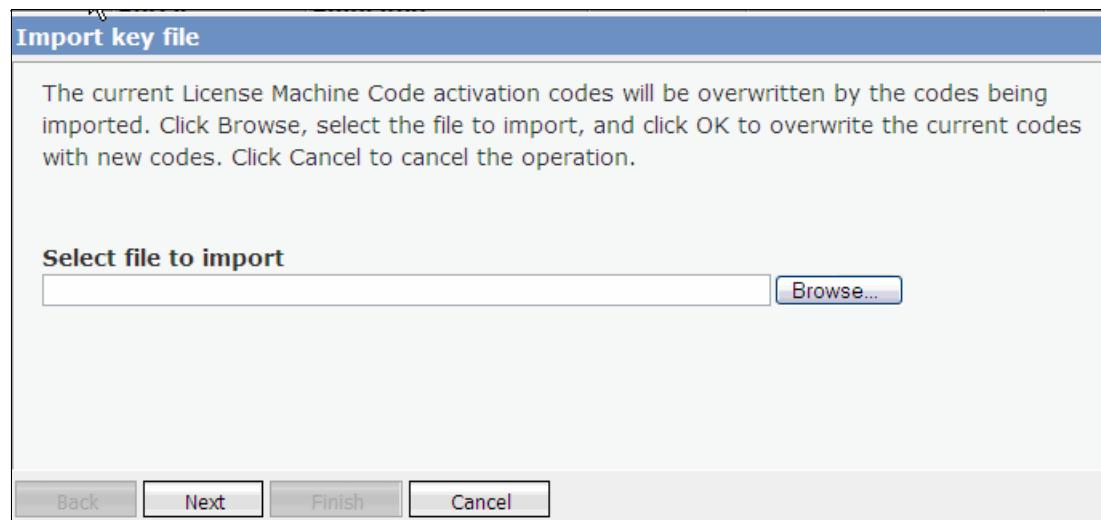

Figure 10-12 Apply Activation Codes by importing the key from the file
3. The easiest way is to import the activation key from the file, as shown in Figure 10-12.